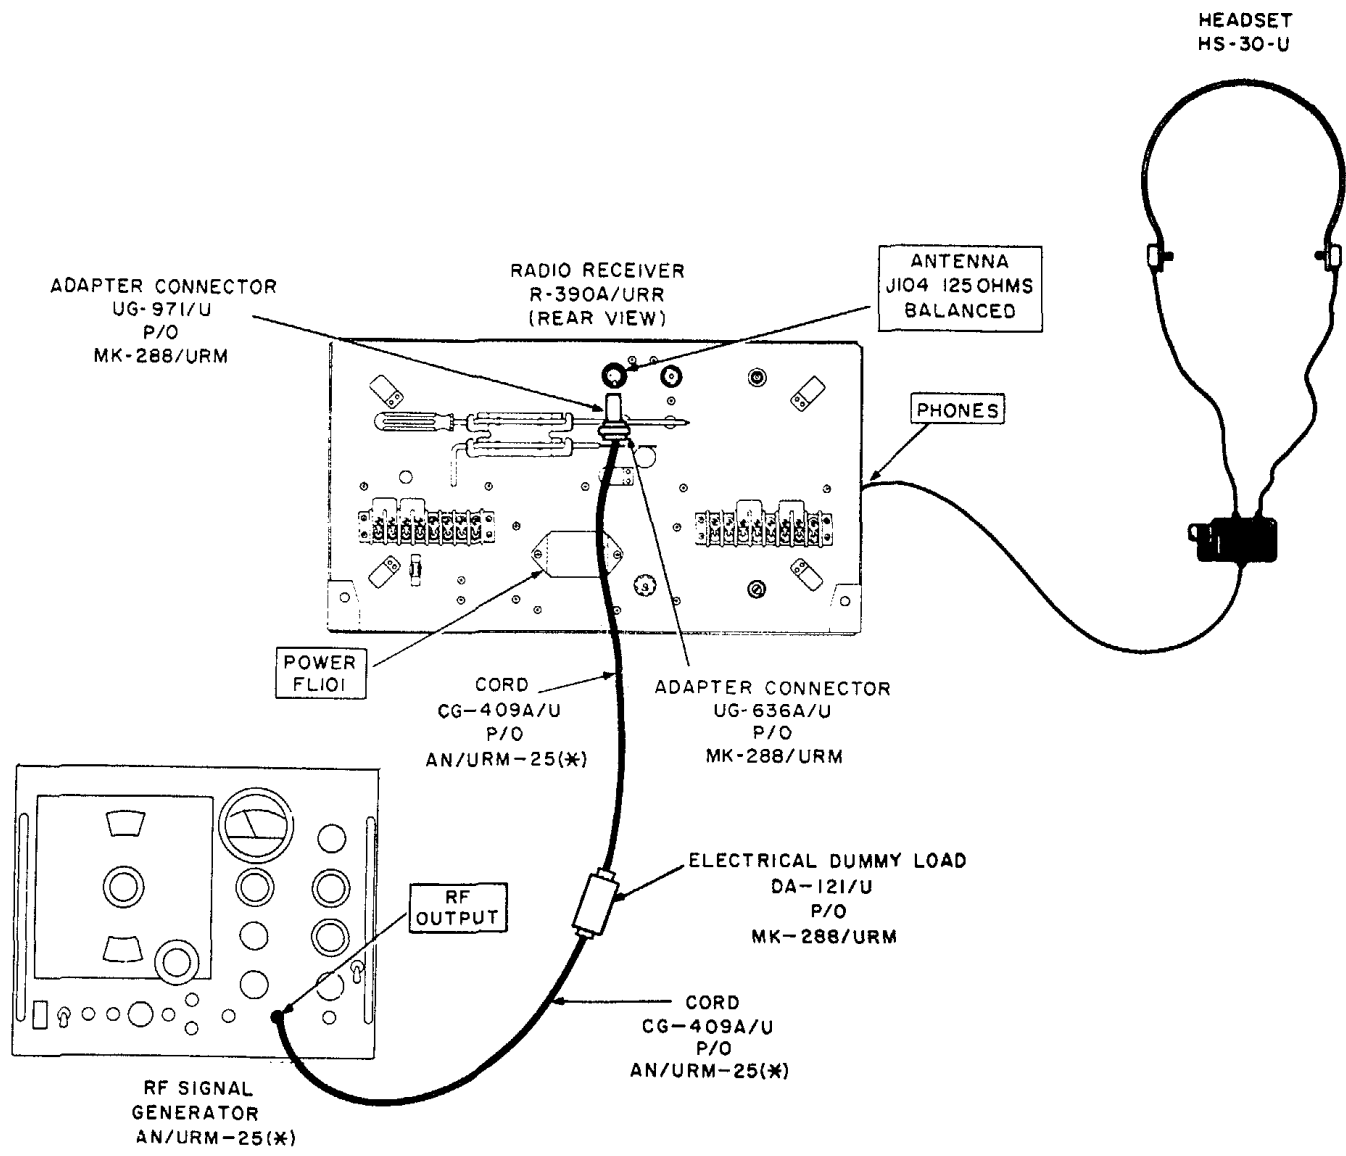

Figure 78. Line level meter and limiting test setup.
(fig. 78)
- b. Test Connections and Conditions. Connect the equipment as shown in figure 78.